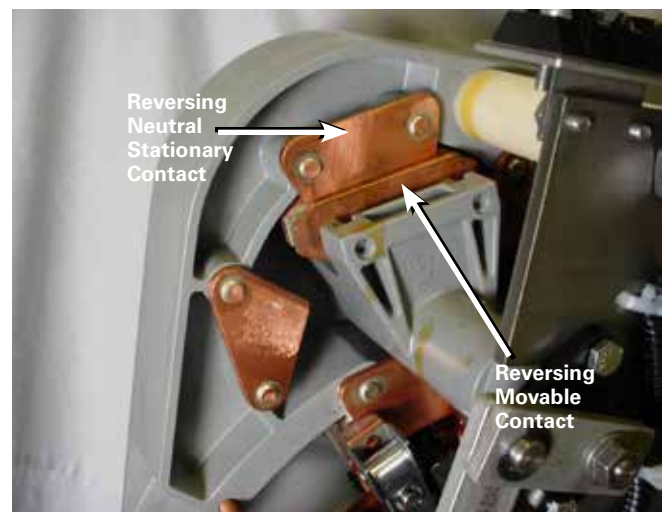

Figure 24. Neutral position for reversing movable.
- B. The reversing movable contact is located on the reversing neutral stationary contact. See Figure 24.